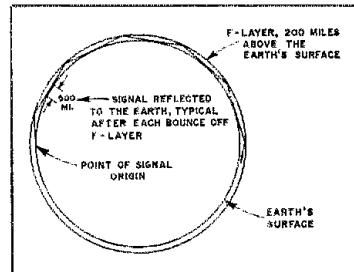

Fig. 1 — Illustration of how radio waves propagate according to conventional ionospheric theory.
□ I wish to present a theory for long-range radio-wave propagation that is different from all others I have seen. Conventional propagation theory states that the radio wave leaves the antenna and travels beyond the horizon to the downward curving, spherical shell of the ionospheric F layer, which is situated approximately 200 miles above the earth. The wave is then reflected back to the ground, toward the horizon, ahead of this reflection point, or area. It is then said to bounce off the earth and back up to the ionosphere, where the cycle is repeated as often as required to reach the reception point — several thousand miles away. By laying out the earth and its ionosphere on a scale drawing, it is found that to reach the other side of the earth, the energy would have to reflect off the earth's surface several times. (See Fig. 1.)
□ In Fig. 1 of "Refining the SB-104," March 1982 *QST*, a ground symbol should be added to the junction of the base and emitter resistors and emitter bypass capacitor of Q702. Also, the 0.1-μF bypass at the collector end of R721 should be moved to the opposite (dotted line) side. (Thanks to Ulrich Rohde, DJ2LR.)
that he has incorrectly shown S1 as a 3-position switch in Fig. 1. S1 should have 4 positions. The additional position should be open on both sections to select mode 3 (110-baud ASCII). Q3 was also omitted from Fig. 3. It can be located near Q1 and Q2 in the lower corner of the board.